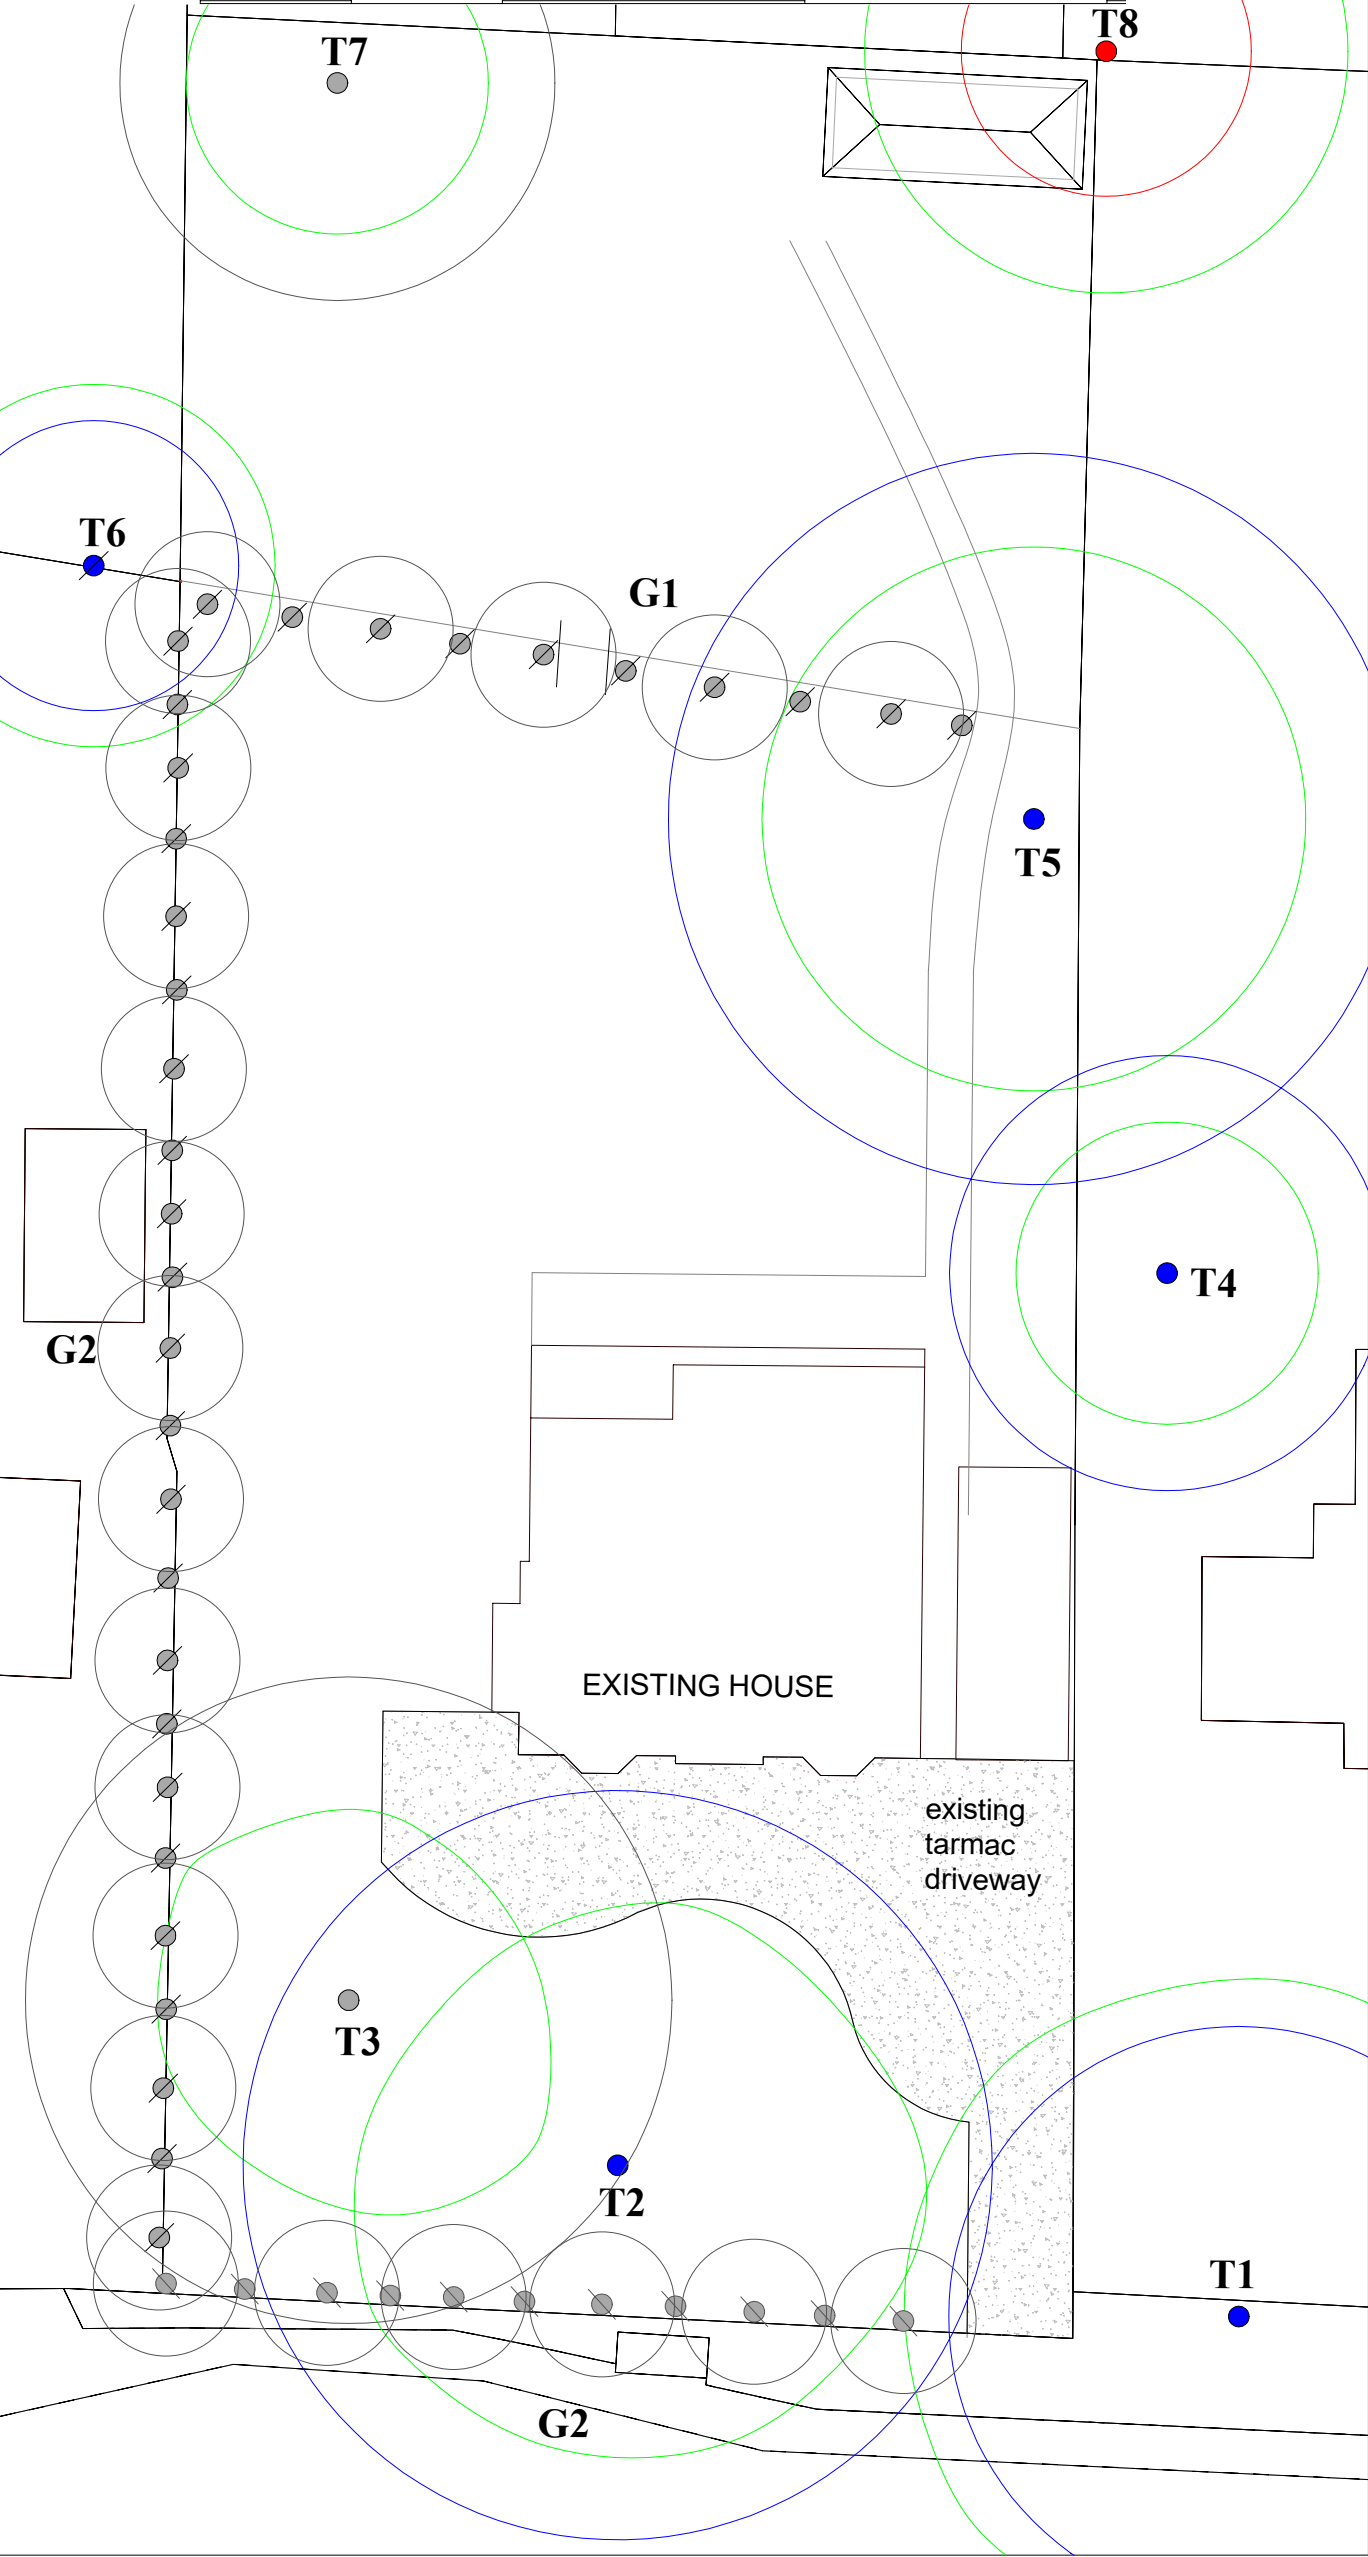
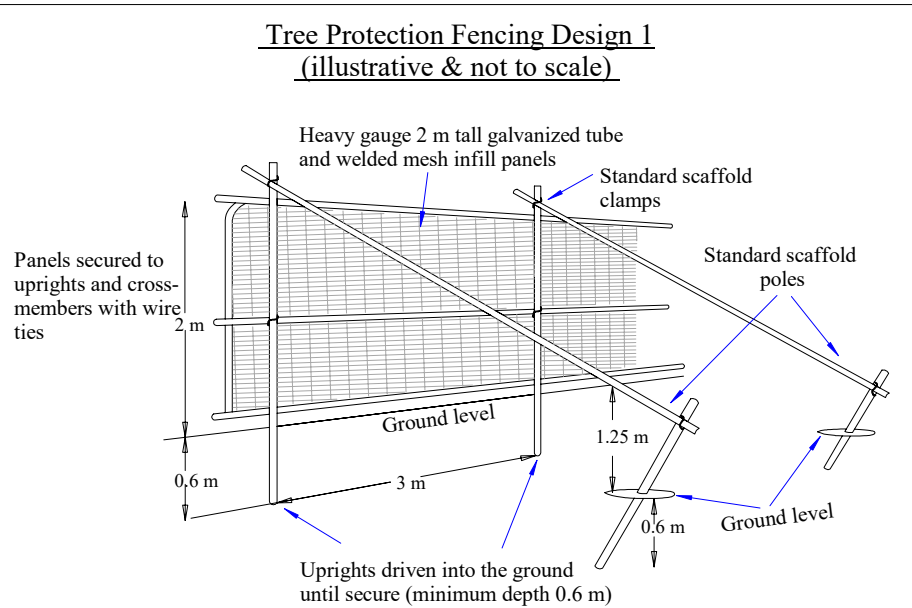

FIGURE 1
FIGURE 2
- D.** Pre-commencement meeting, post installation of Tree Protection measures including the chemical storage/mixing bund, (detailed within Figures 1, 2, 3, 4 & 5, section 2 and plan GH2284rev1b), and prior to construction. The pre-commencement meeting should be held and attended by the developer's Arboricultural Consultant and the designated site foreman to discuss details of the working procedures. A representative from the Local Planning Authority may request attendance at the meeting.
- E.** additional Tree Protection - see section 9.2(4) & Appendix 5(1) within Arboricultural Report GH2284.1
- J.** landscaping - see Appendix 5 (8) within Arboricultural Report GH2284.1
Tree Protection fencing Design 1 for construction and demolition, requires a scaffold framework with Heras Panels or steel mesh attached. For fencing design and specific locations see plan GH2284rev1b and Figure 2. Laminated Construction Exclusion signs (Figure 1) should be placed upon the side of the fencing, facing the development at 3 metre intervals.
Tree Protection fencing Design 2 for construction and demolition, requires orange safety fencing, secured to steel pins every 3 m. For fencing design and specific locations see plan GH2284rev1b and Figure 5. Laminated Construction Exclusion signs (Figure 1) should be placed upon the side of the fencing, facing the development at 3 metre intervals.